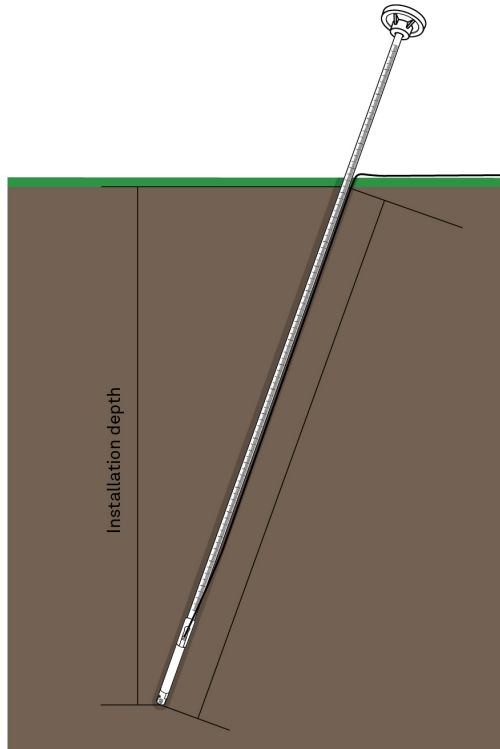

Figure 6 Inserting the TEROS 22 using the insertion tool
3. Insert the sensor by hand into the drilled hole until the final installation depth is reached (Figure 6).